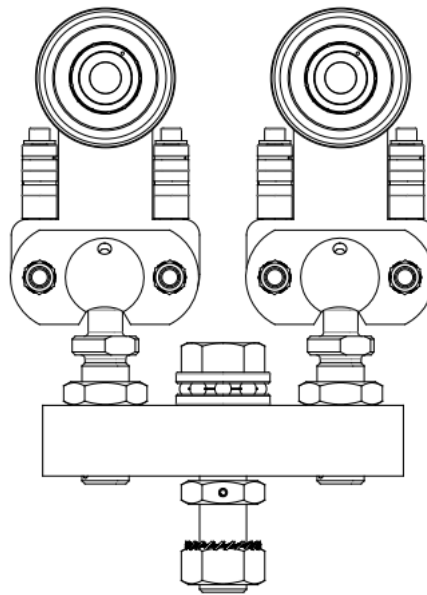

Fig. 13
- 2.:** The use of load carriers 27.T143, illustrated in fig. 13, is mandatory.